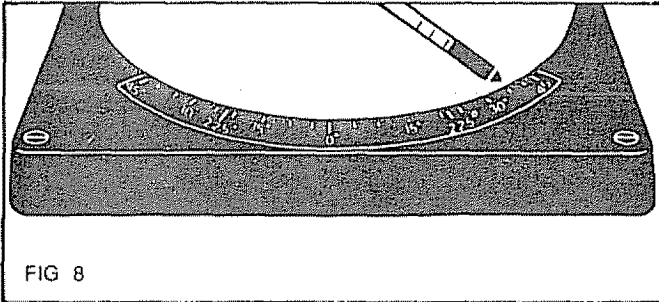

FIG 8
4. The miter scale is graduated in increments of one degree (1°). The example shown in Fig. 8 is 35°.